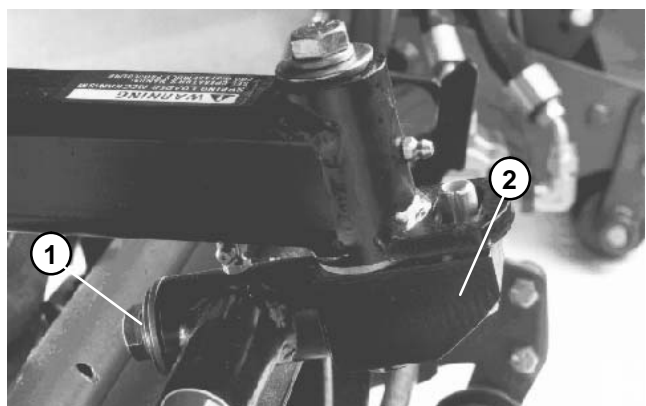

Figure 29
4. Remove cap screw, lock washer, flat washer and thrust washer from cutting unit mounting shaft (Fig. 29).
5. Pull cutting unit off mounting shaft (Fig. 29).
4. Secure thrust washer, flat washer, lock washer, and cap screw to the cutting unit mounting shaft (Fig. 29).